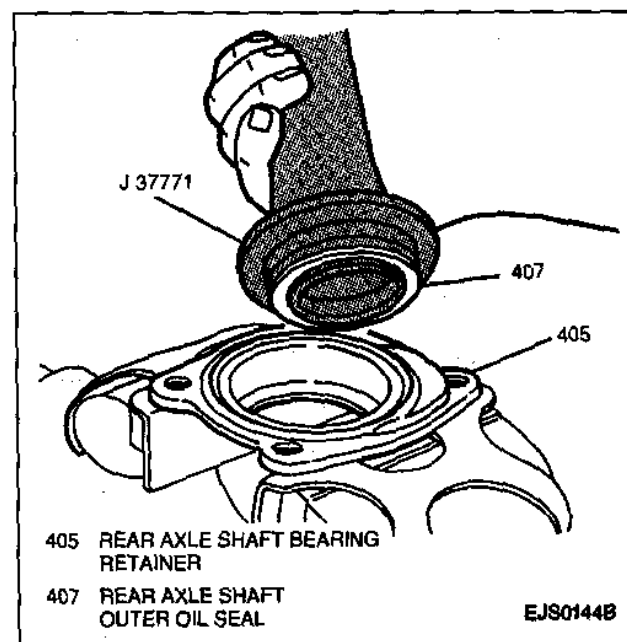

Figure 14—Installing Rear Axle Shaft Outer Oil Seal
2. Rear axle shaft outer oil seal into the rear axle shaft bearing retainer using a J 37771 (Figure 14).